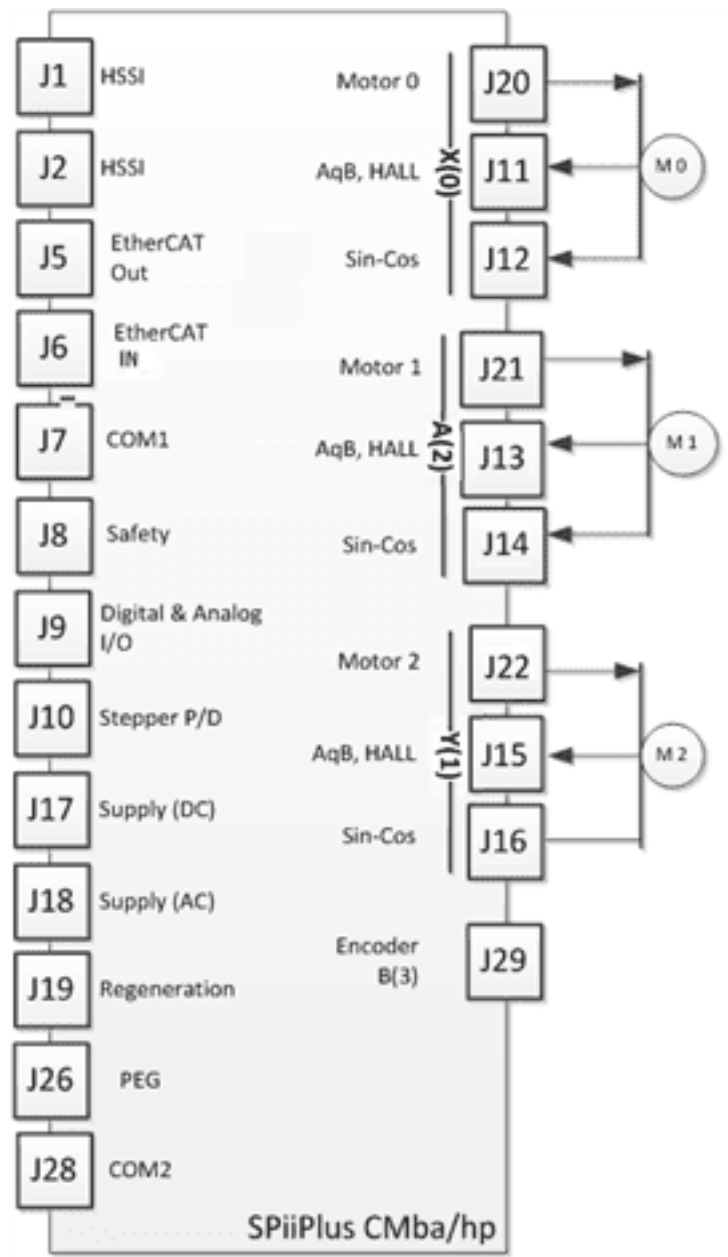

Figure 3-4. SPiiPlusCMHP/BA Connector Diagram
1. Connect the supply and control cables (see Figure 3-4) using pre-wired cables, according to the recommended connectors and pin-out detailed in SPiiPlusCMhp/ba Connectors.